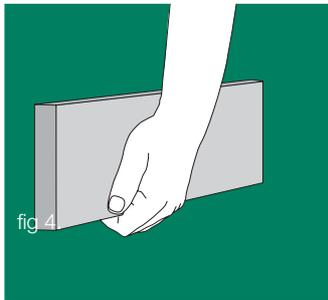

fig 4.
- Carry the products on edge (figure 4).